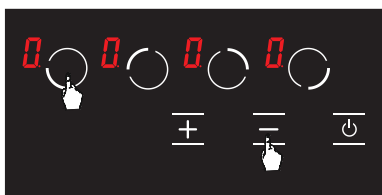

Figure 18
2. Press front left hob selection key (  ) and minus key (  ) simultaneously. (see Fig. 18) You shall hear a short warning signal at this time. Then, remove your fingers from the stove control panel.